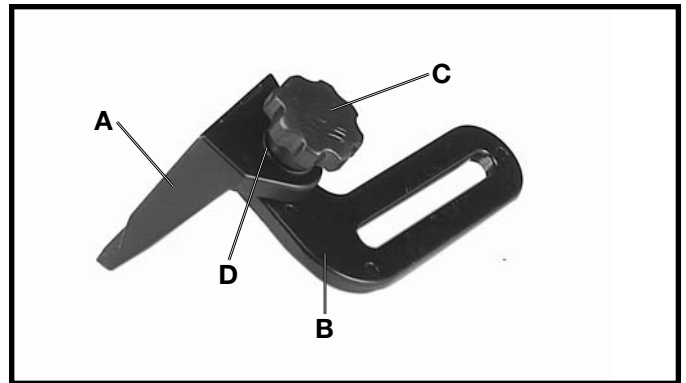

Fig. 3
1. Assemble left tool rest (A) Fig. 3, to left tool rest arm (B), as shown, and fasten with one 5/16-18x3/4" knob head screw (C) and 5/16" flat washer (D). Assemble the remaining tool rest in the same manner. Do not completely tighten hardware at this time.